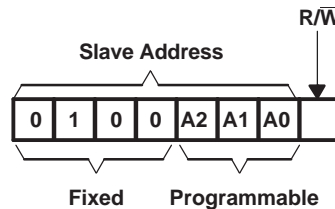
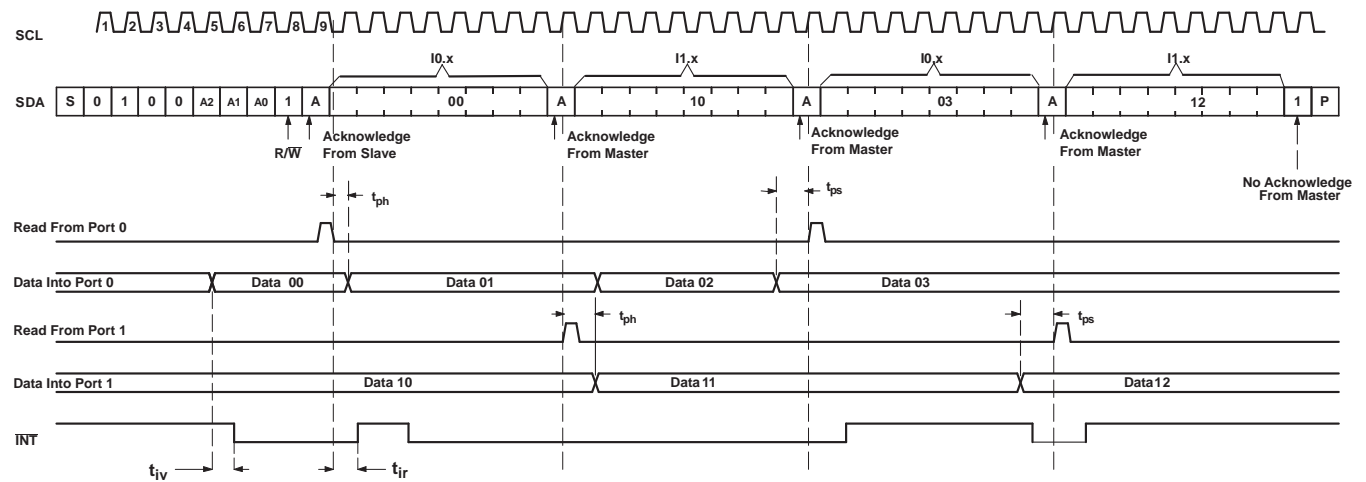

Figure 4. TCA9555 Address
**Figure 8. Read From Register**
Figure 4 shows the address byte of the TCA9555.
Data is transmitted to the TCA9555 by sending the device address and setting the least-significant bit to a logic 0 (see Figure 4 for device address). The command byte is sent after the address and determines which register receives the data that follows the command byte.
The bus master first must send the TCA9555 address with the least-significant bit set to a logic 0 (see Figure 4 for device address). The command byte is sent after the address and determines which register is accessed. After a restart, the device address is sent again, but this time, the least-significant bit is set to a logic 1. Data from the register defined by the command byte then is sent by the TCA9555 (see Figure 8 through Figure 10).
- B. This figure eliminates the command byte transfer, a restart, and slave address call between the initial slave address call and actual data transfer from the P port (see Figure 8 for these details).